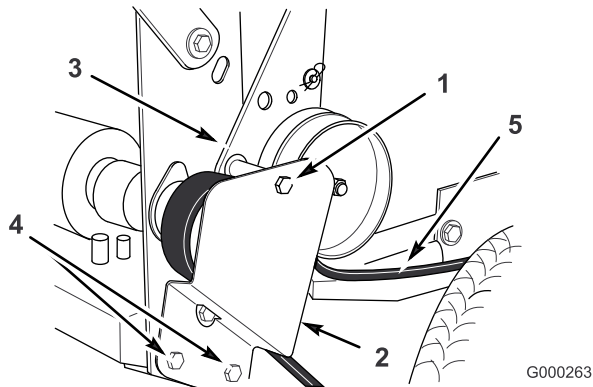

Figure 46
1. Remove the top capscrew securing idler support and idler bracket to rear frame (Figure 46).
2. Loosen bottom two mounting screws enough to allow belt to pass between drive pulley and idler support (Figure 46).
5. Install the top capscrew securing the idler support and idler bracket to the rear frame (Figure 46).
6. Tighten the bottom two mounting screws enough to allow the belt to pass between the drive pulley and idler support (Figure 46).